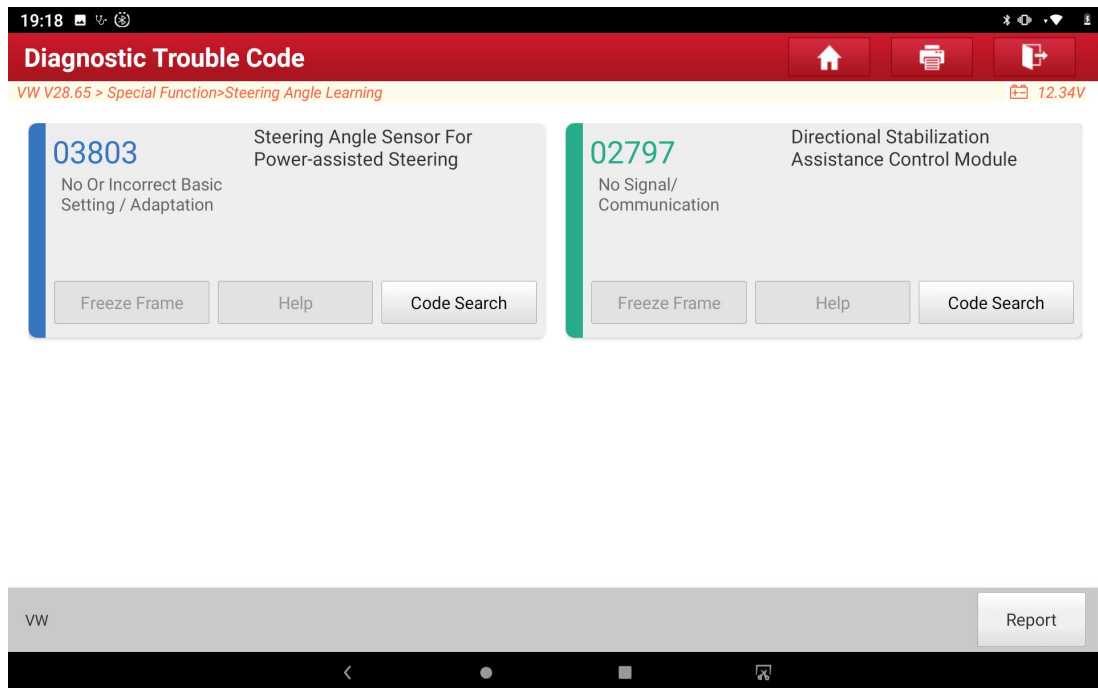

Figure2
7. Read the fault code and clear the fault code to ensure that there is no fault code in the system. If there is a fault code, the steering angle learning will not be completed successfully. As shown in Figure 2: